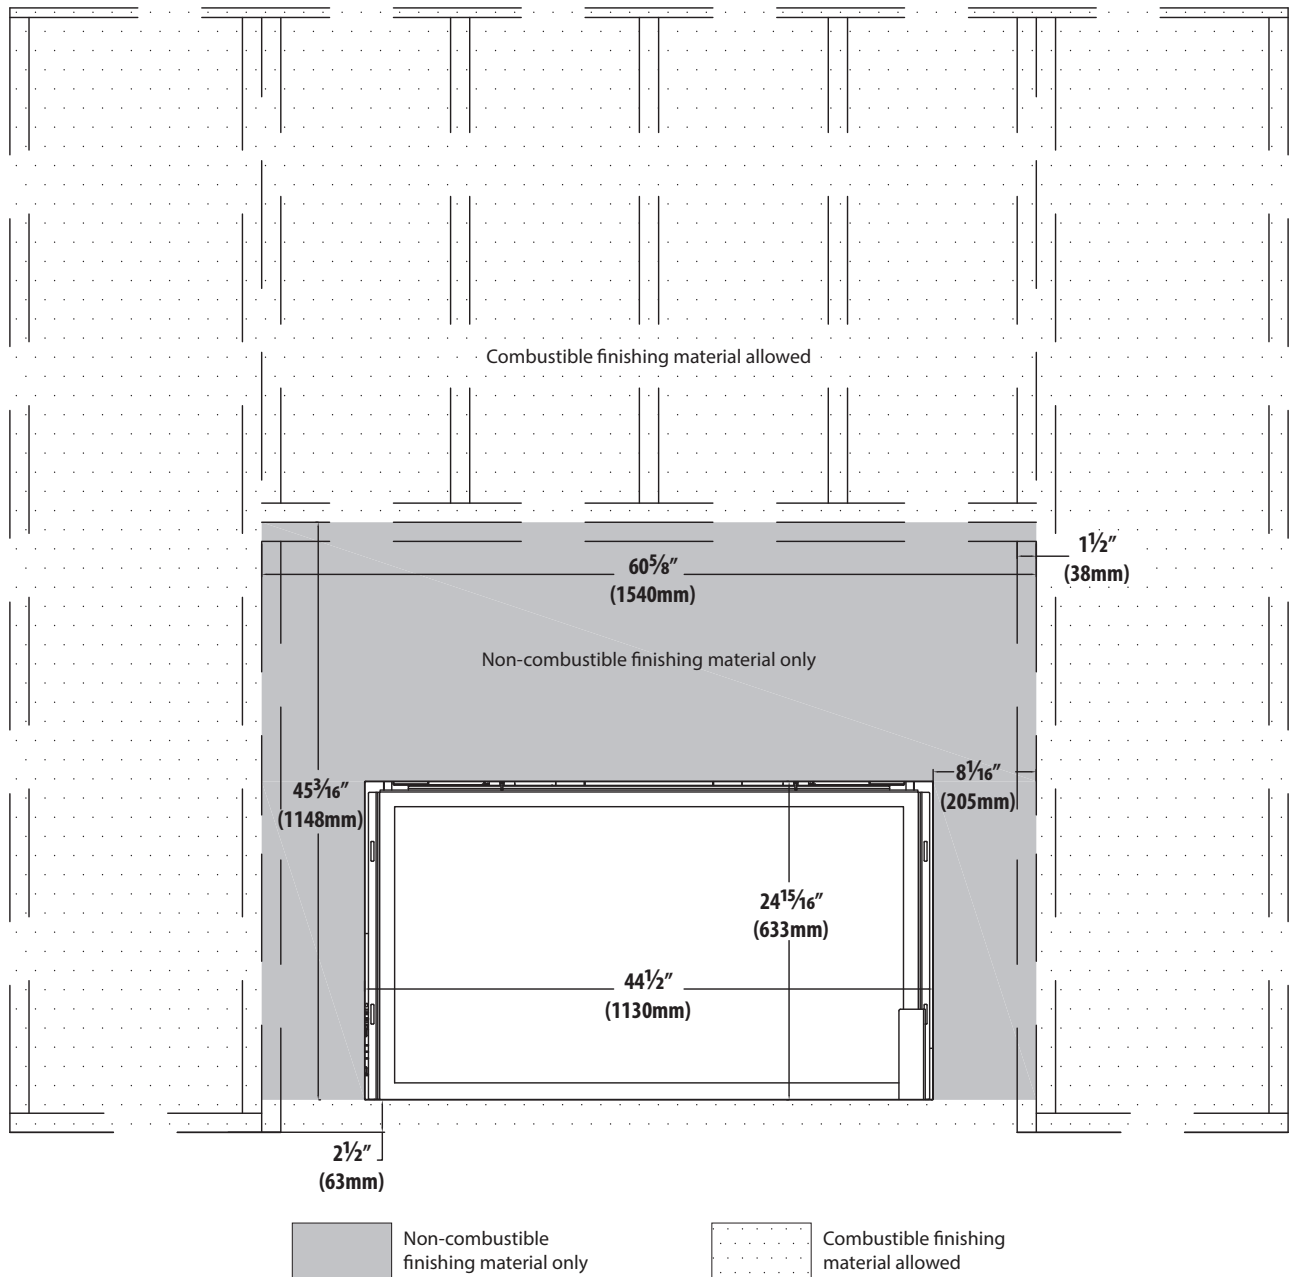
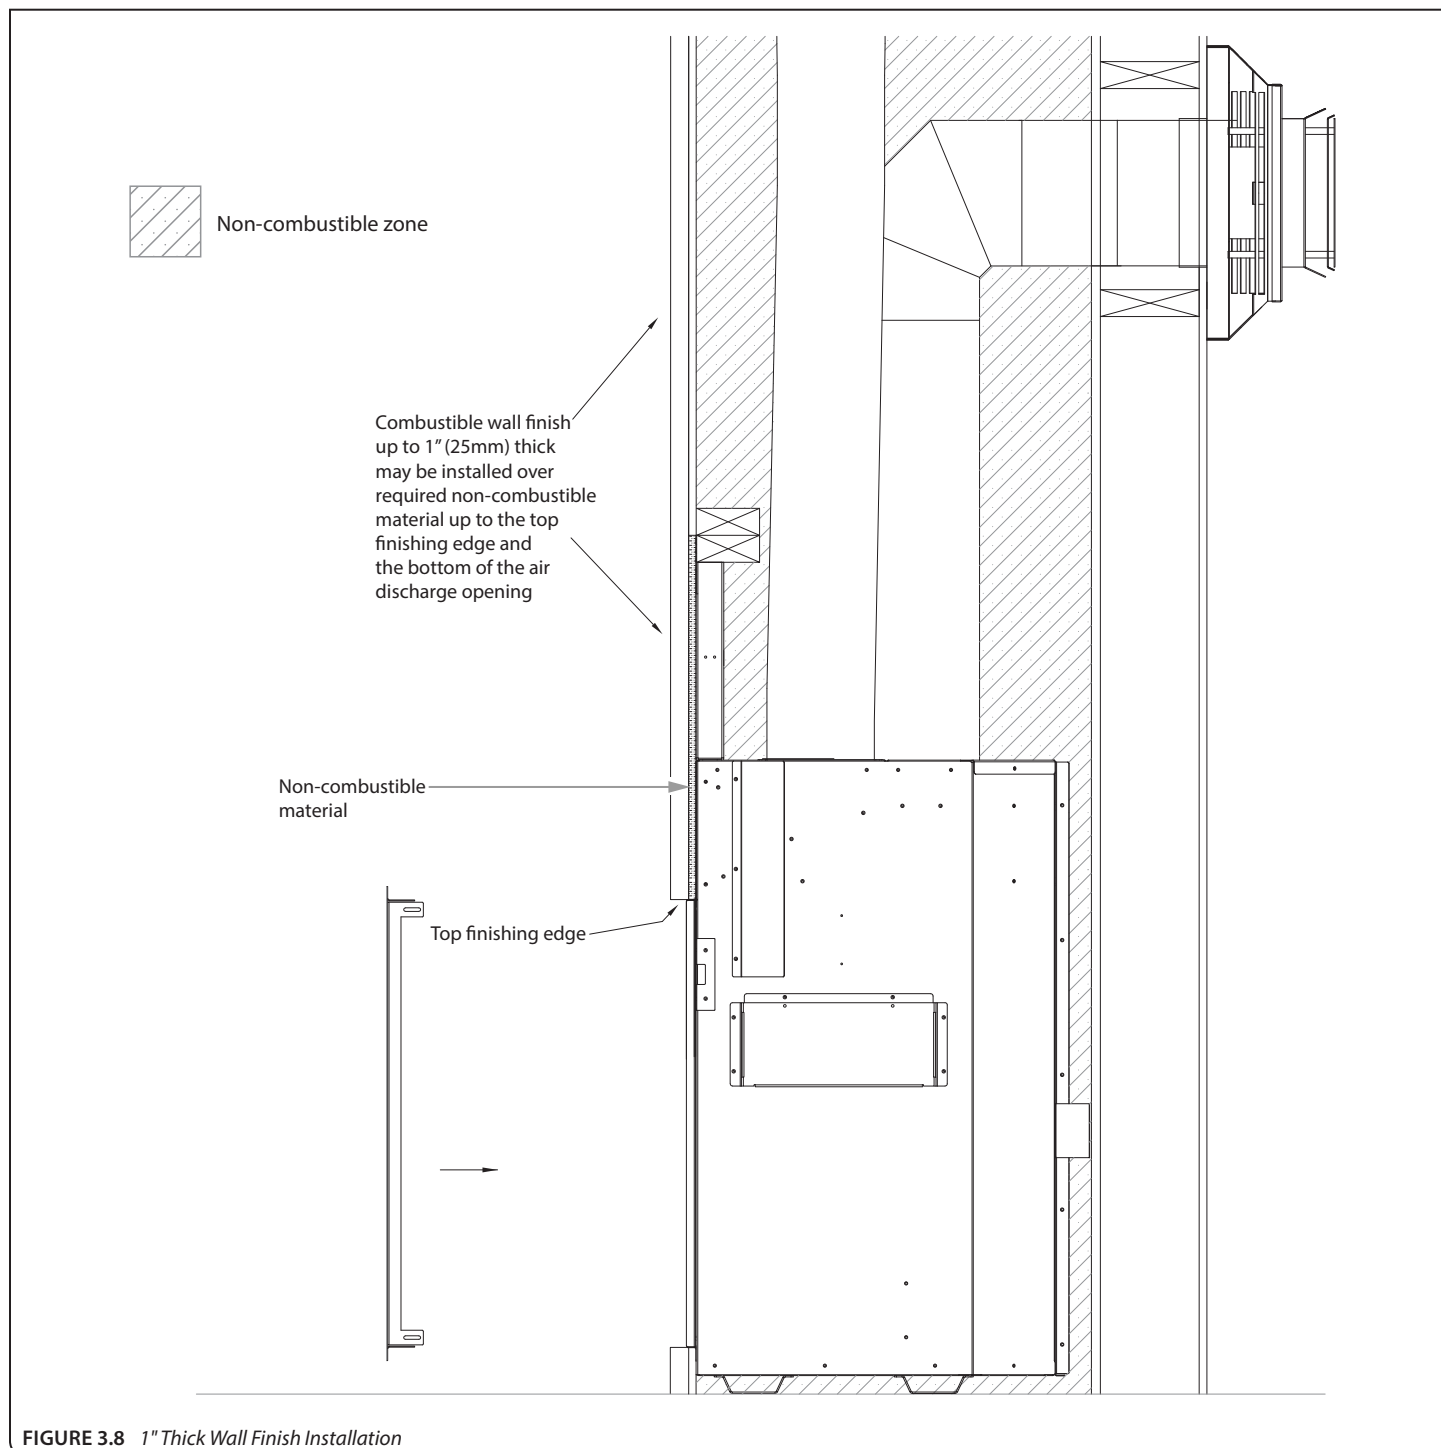

FIGURE 3.4 Minimum Non-combustible Finishing Dimensions
FIGURE 3.8 1" Thick Wall Finish Installation
- **FIGURE 3.8** shows installation of combustible wall finish up to 1" thick. This combustible material goes over any required non-combustible materials as shown in **FIGURE 3.4** on page 21.